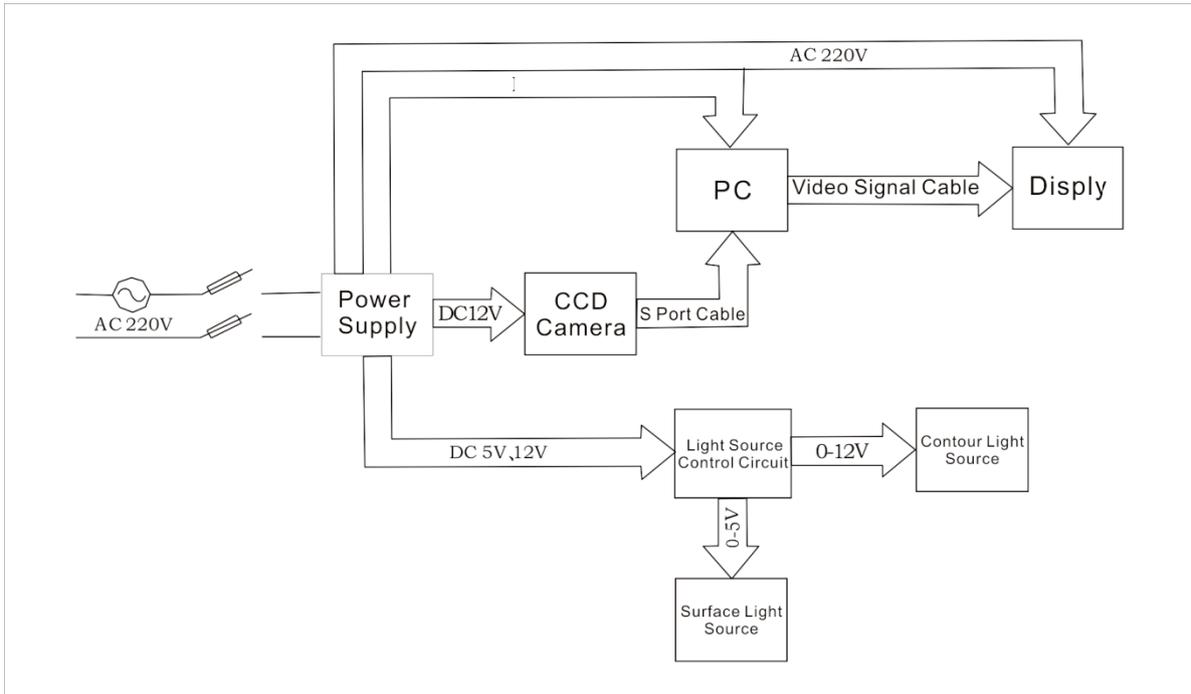

Fig 2 Operating Principle
Optical vision measurement is one of the high precision measuring method is more advanced at present, its working principle is shown in Figure 2, the measured Work piece (placed on the table) by LED surface (4) or contour light (table in lighting), the zoom lens (2), color CCD (1 cover) the uptake of images, even good computer by special measuring software for its target measurement, through Y to X, (longitudinal) to (horizontal movement) drives the grating (6 and 10) in X, mobile Y direction, by measuring software to complete the measurement work.